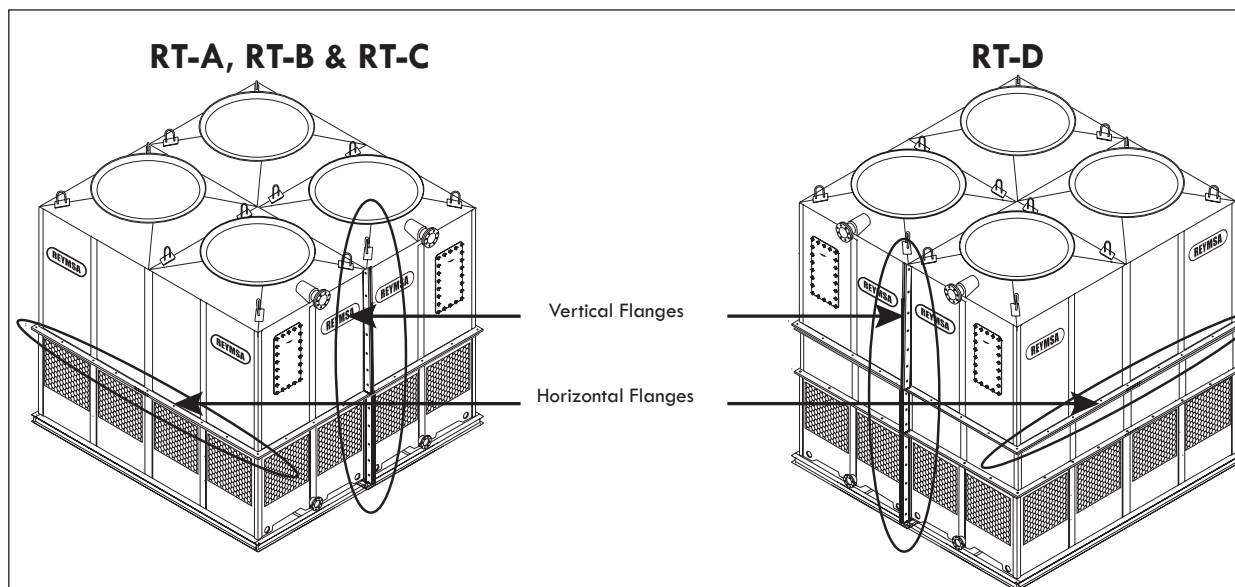

Figure A-31: Body section 2 (Upper Body section 2 for RT-D) on a Quadruple Fan Tower
- M.** Now with the two upper sections together, proceed to bolt down and secure horizontal flanges with the stainless steel nut and bolts sets supplied by REYMSA. See Figure A-31.